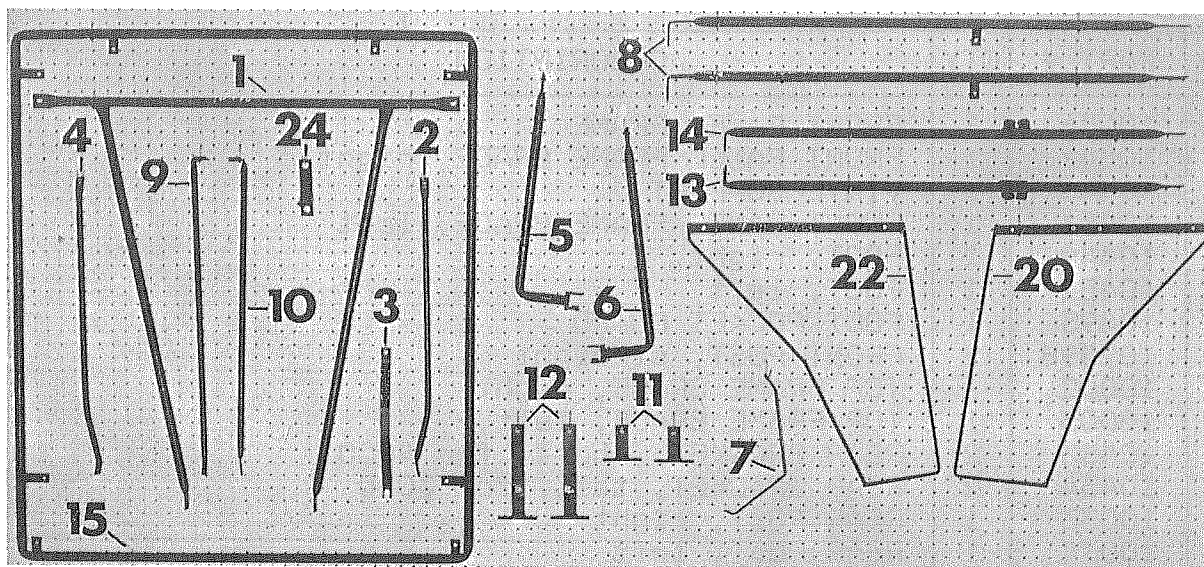

FIGURE 1
STEP 1; SEE FIGURE 1:
- A. Identify all of the steel parts using FIGURE 1 as an example.